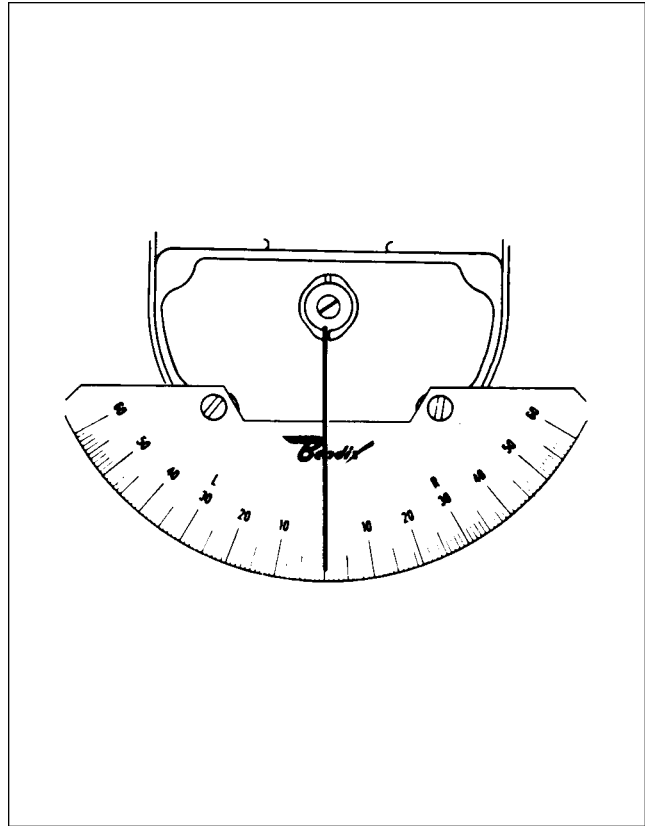

Figure 8-14. Timing Kit Installed
3. Install the Bendix 11-8147 Plate Assembly to the breaker compartment of the magneto as shown in Figure 8-14.